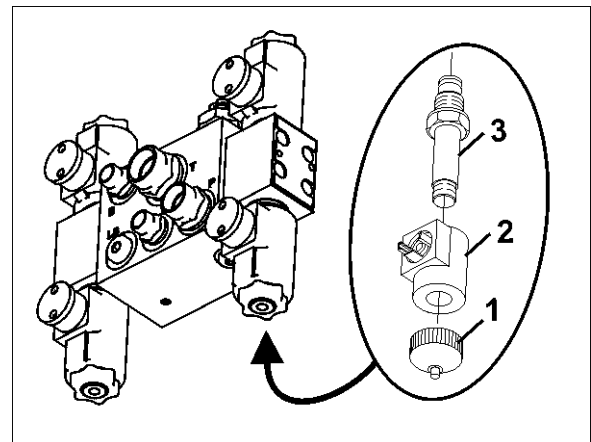

Fig. 141
1. Unscrew the magnetic cap (Fig. 141/1) abschrauben.
2. Remove the solenoid (Fig. 141/2) abnehmen.
3. Unscrew the valve rod (Fig. 141/3) with valve seats and clean with compressed air or hydraulic fluid